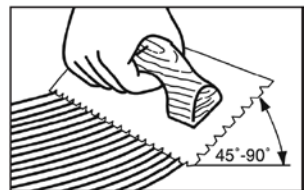

Figure 9
- Hold the trowel at a minimum 45° angle (see Figure 9), firmly against the subfloor to achieve a 50-60 ft.2 per gallon spread rate. The trowel leaves adhesive ridges with minimal adhesive between, allowing visibility of chalk lines and ensuring the recommended spread rate